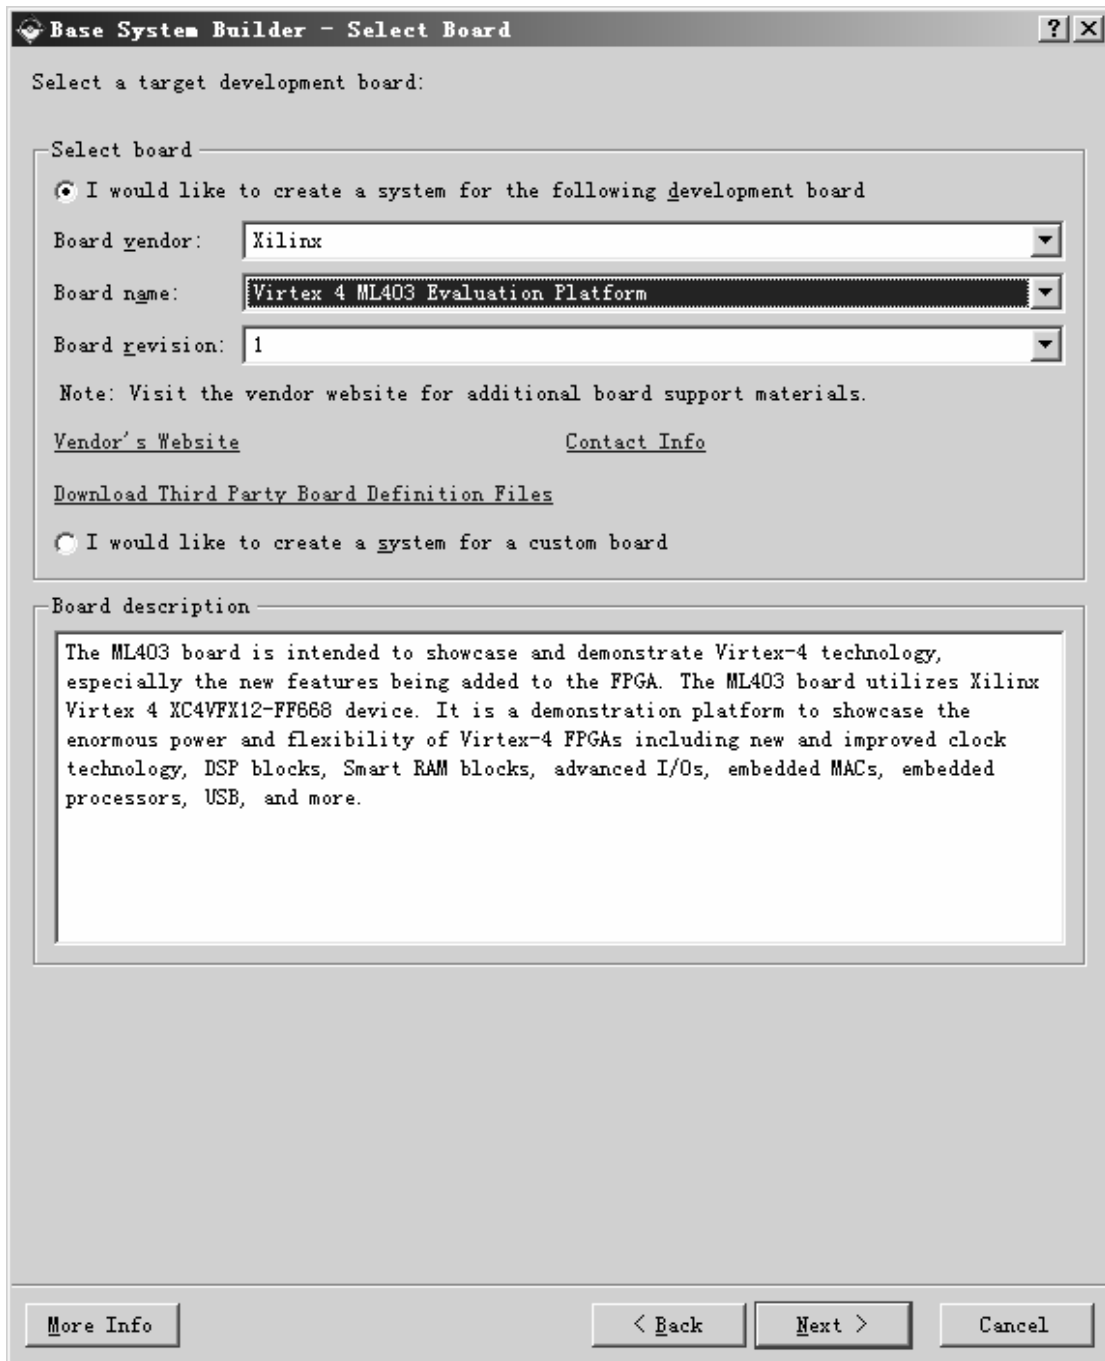

Figure 2: BSB: Select a Board
- In the Base System Builder - Select Board Dialog select the following, as shown in Figure 2:
To see the project options that Base System Builder has configured select: **Project** → **Project Options**. As shown in Figure 2, the device information is specified.